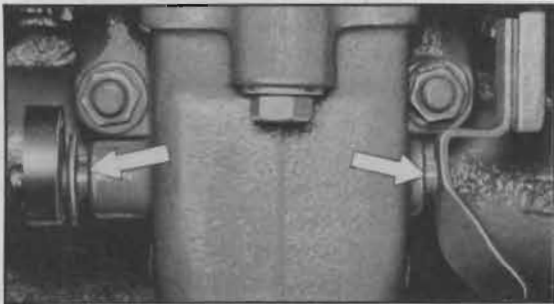

Figure 1-7—Points to Lubricate Manifold Valve Shaft
13. *Manifold Valve Shaft.* Place a few drops of graphited kerosene on shaft at each end and rotate shaft to work lubricant into bearings. See figure 1-7. If shaft is frozen, free up by tapping ends of shaft lightly with hammer.